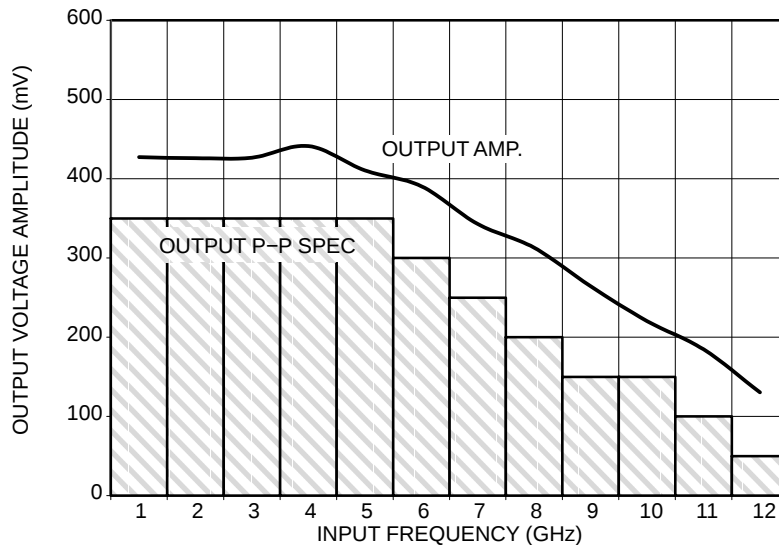

Figure 3. Output Amplitude (V_{OUTPP}) vs. Input Frequency (F_{IN}) at Ambient Temperature (Typical)
23. Measured using a 500 mV source, 50% duty cycle clock source. All loading with $50\ \Omega$ to $V_{CC} - 2.0\text{ V}$ for QFN package. For minimum $f_{\max}$ value of 10.5 GHz, output amplitude is approximately 200 mV (as shown in Figure 3, where output P-P spec is shown as a minimum/guarantee of around 150 mV). Input edge rates 40 ps (20% – 80%).